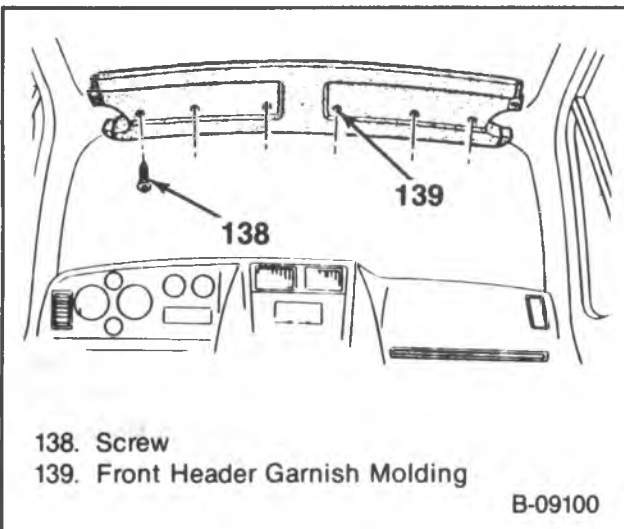

Figure 48 — Front Header Garnish Molding
4. Front header garnish molding screws and the front header garnish molding (figure 48).
11. Front header garnish molding and screws (figure 48).